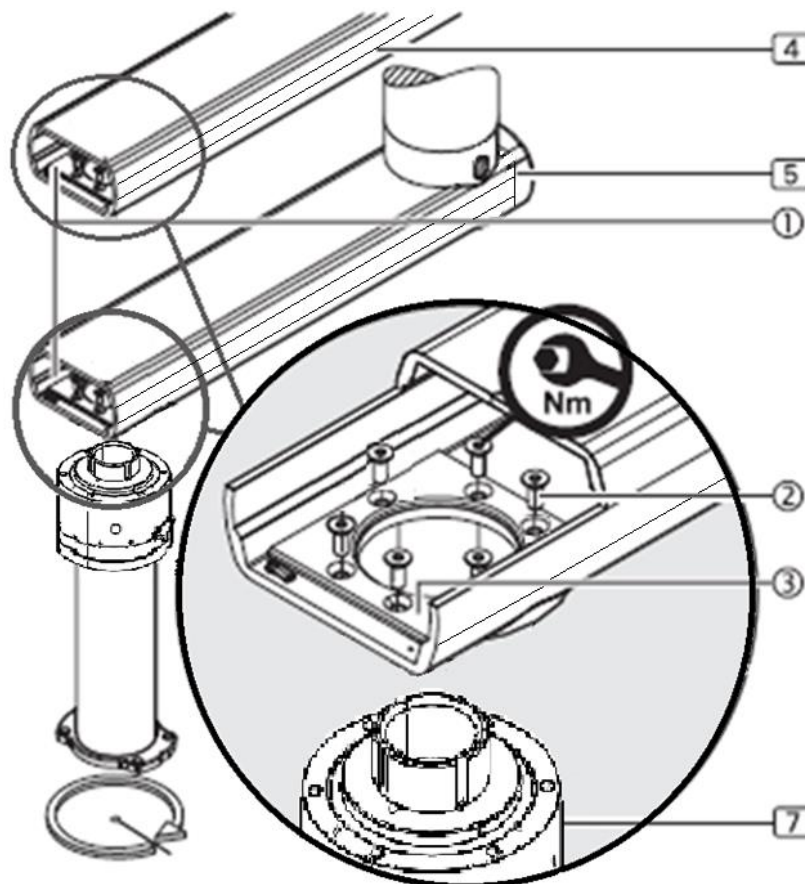

Fig. 17 Assembly of drop tube on NON-motorised arms
- Check the horizontal alignment of the extension arms. Place the digital spirit level at right angles to the direction of the arm (near the flange (3)). Rotate the arm 90 degrees in various directions and check the horizontal alignment. See figure 17.